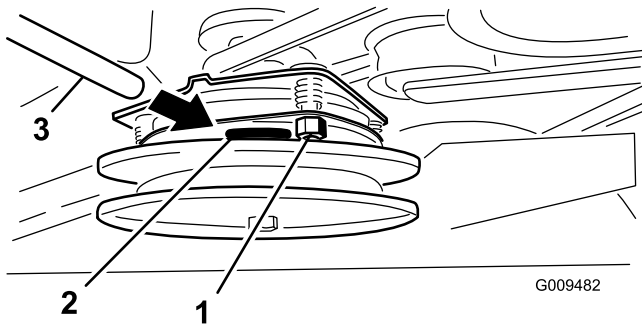

Figure 60
3. Tighten the lock nuts until there is slight binding on the feeler gauge but it can be moved easily within the air gap (Figure 60).